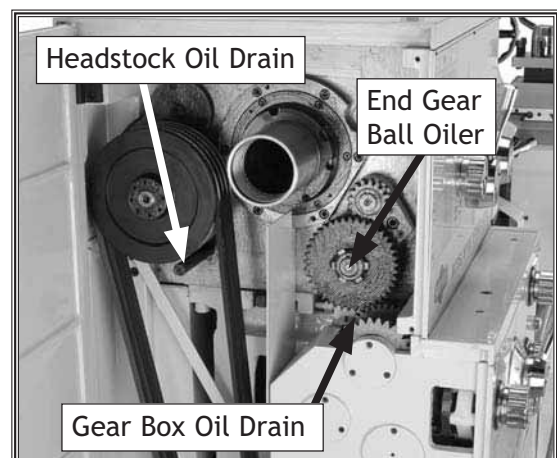

Figure 65. Headstock and gear box drain locations.
Paint all gears in Figure 65 with a good quality automotive wheel bearing grease as required to keep lubricated.
- End Gear (1 ball oiler, see **Figure 65**)